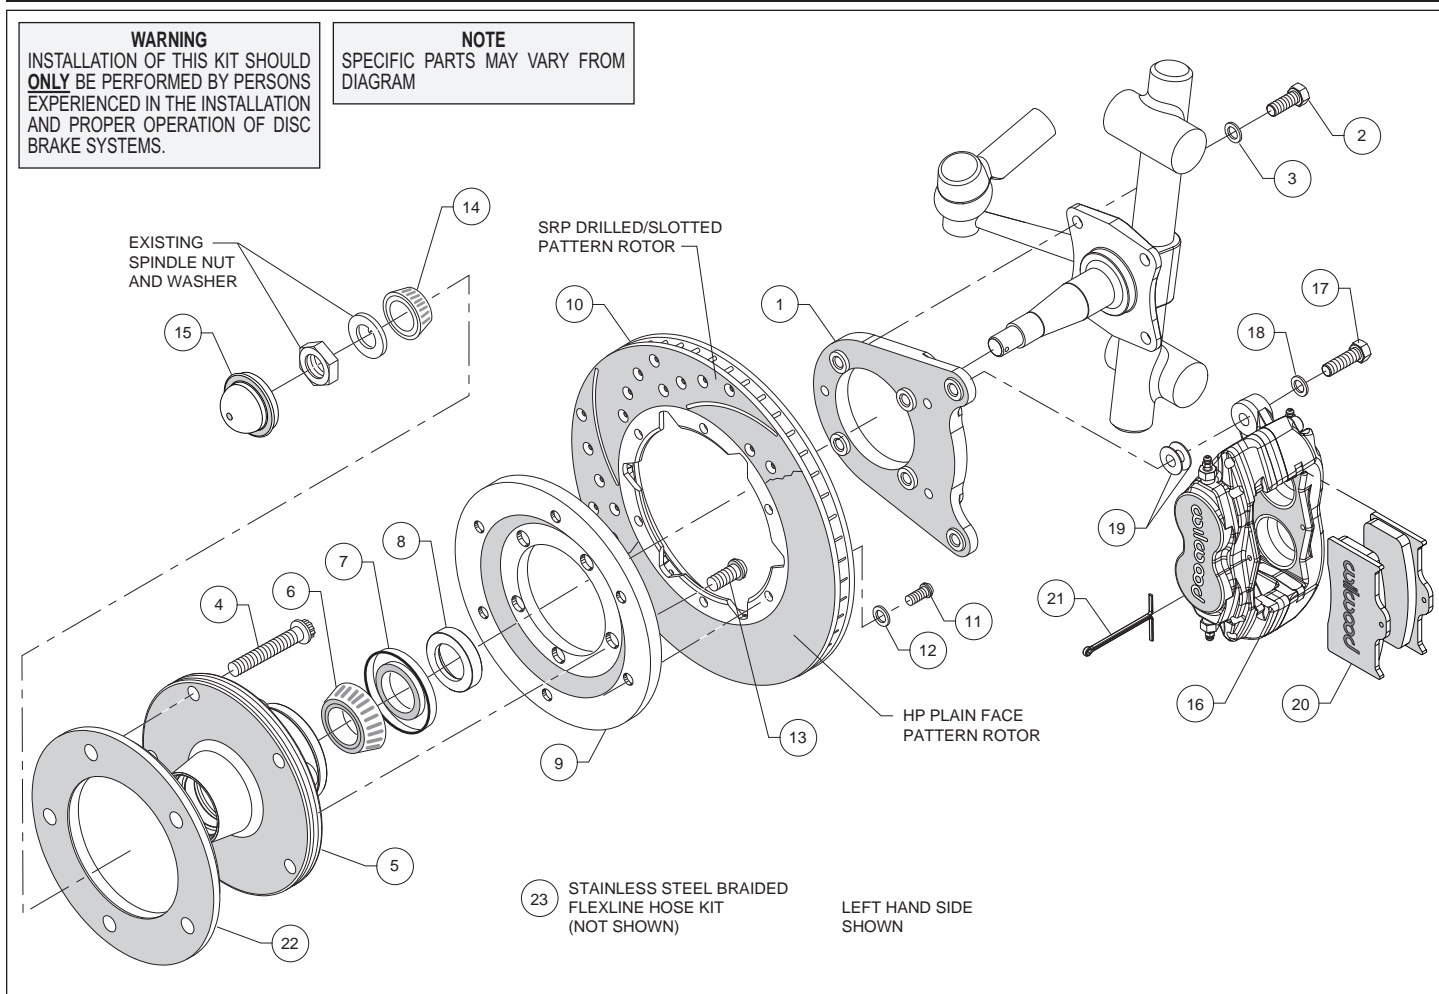
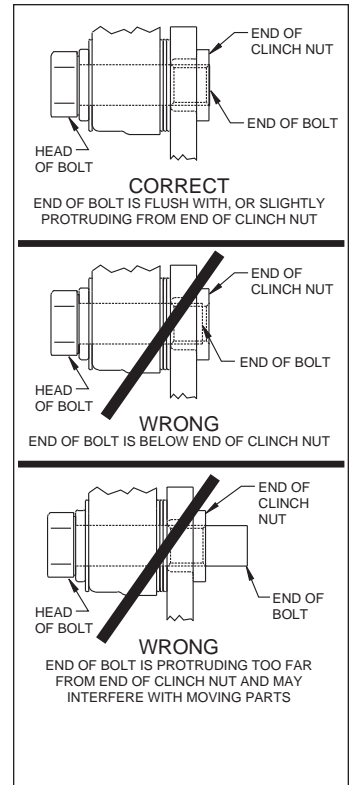

Figure 1. Typical Installation Configuration
Figure 3. Clinch Nut Engagement Diagram
Assembly Instructions (numbers in parenthesis refer to the parts list on the preceding page, and Figure 1): **CAUTION:** All mounting bolts must fully engage insert nuts. Be sure to check that all bolts are either flush or protruding through flanged side of clinch nut after shimming, Figure 3.
- Orient the caliper mounting bracket (1) as shown in Figure 1 and Photo 1, and attach using bolts (2) and washers (3). Temporarily tighten the mounting bolts. Ensure that the flanged heads of the clinch nuts in the bracket are facing outboard, Photo 1. **NOTE:** The bracket must fit squarely against the mounting points on the spindle. Inspect for interference from casting irregularities, machining ridges, burrs, etc. Remove bolts one at a time, apply red *Loctite*® 271 to threads, and torque to 40 ft-lb.
- Install the grease seal (7) by pressing into the backside of the hub (5), flush with the end of the hub, Photo 3.
- Slide the bearing spindle spacer (8) onto the spindle. Ensure the chamfered I.D. faces inward, Photo 4.
- Orient the rotor (10) and the rotor adapter (9) as shown in Figure 1 and Photo 5. Attach the rotor to the adapter using bolts (11), and washers (12). Using an alternating sequence, apply red *Loctite*® 271 to the threads, and torque to 25 ft-lb.
- Mount the adapter/rotor assembly (9/10) to the hub (5) using bolts (13), as shown in Figure 1 and Photo 6. Using an alternating sequence, apply red *Loctite*® 271 to the threads, and torque to 45 ft-lb.
- Pack the small outer bearing cone (14) with high temperature disc brake bearing grease and install into hub (5). Slide the hub/rotor assembly onto the spindle, Photo 7. Secure using OEM spindle washer and OEM spindle nut. Adjust bearings per OEM specifications. Bearing adjustment: Tighten the nut while turning the hub. When there is a slight bind on the bearings, they are seated correctly. Back the nut off about 1/6 to 1/4 of a turn, or sufficiently to allow .001" to .007" end play. **WARNING:** Failure to back off adjusting nut could cause bearing to run hot and be
- Press the dust cap (15) into hub (5), Photo 8.
• **NOTE:** Please reference the caution statement at the beginning of the assembly instructions. Mount the caliper (16) onto the caliper mounting bracket (1) using bolts (17) and washers (18), as shown in Figure 1. Initially place two .035" thick shims (19) on each bolt between the caliper and the bracket, Photo 9. Temporarily tighten the mounting bolts and view the rotor (10) through the top opening of the caliper. The rotor should be centered in the caliper, Photo 10. If not, adjust by adding or subtracting shims between the bracket and the caliper. Always use the same amount of shims on each of the two mounting bolts. **NOTE:** The end of each bolt must be flush with or slightly protruding from the head of the clinch nut, as shown in Figure 3. If necessary place spare shims between washer (18) and caliper mounting ear to achieve the proper clinch nut engagement. Once the caliper alignment and clinch nut engagement are correct, remove the bolts one at a time, apply red *Loctite*® 271 to bolt threads, and torque to 40 ft-lb.
- Install the disc brake pads (20) into the caliper, with the friction material facing the rotor (10), Photo 11 and secure in place using cotter pin (21), Photo 12.
- Install wheel spacer (22) over the wheel studs. **NOTE:** Use of wheel spacer is mandatory.
• **NOTE:** OEM rubber brake hoses generally cannot be adapted to Wilwood calipers. The caliper inlet fitting is a 1/8-27 NPT. Install Wilwood's stainless steel braided flexline hose kit (23), P/N 220-15157 included with this kit as shown in Photo 13. **Carefully route hoses to prevent contact with moving suspension, brake or wheel components.** **NOTE:** Wilwood hose kits are designed for use in many different vehicle applications and it is the installer's responsibility to properly route and ensure adequate clearance and retention for brake hose components. Hose kit include hoses, fitting, etc., all in one package for this application.